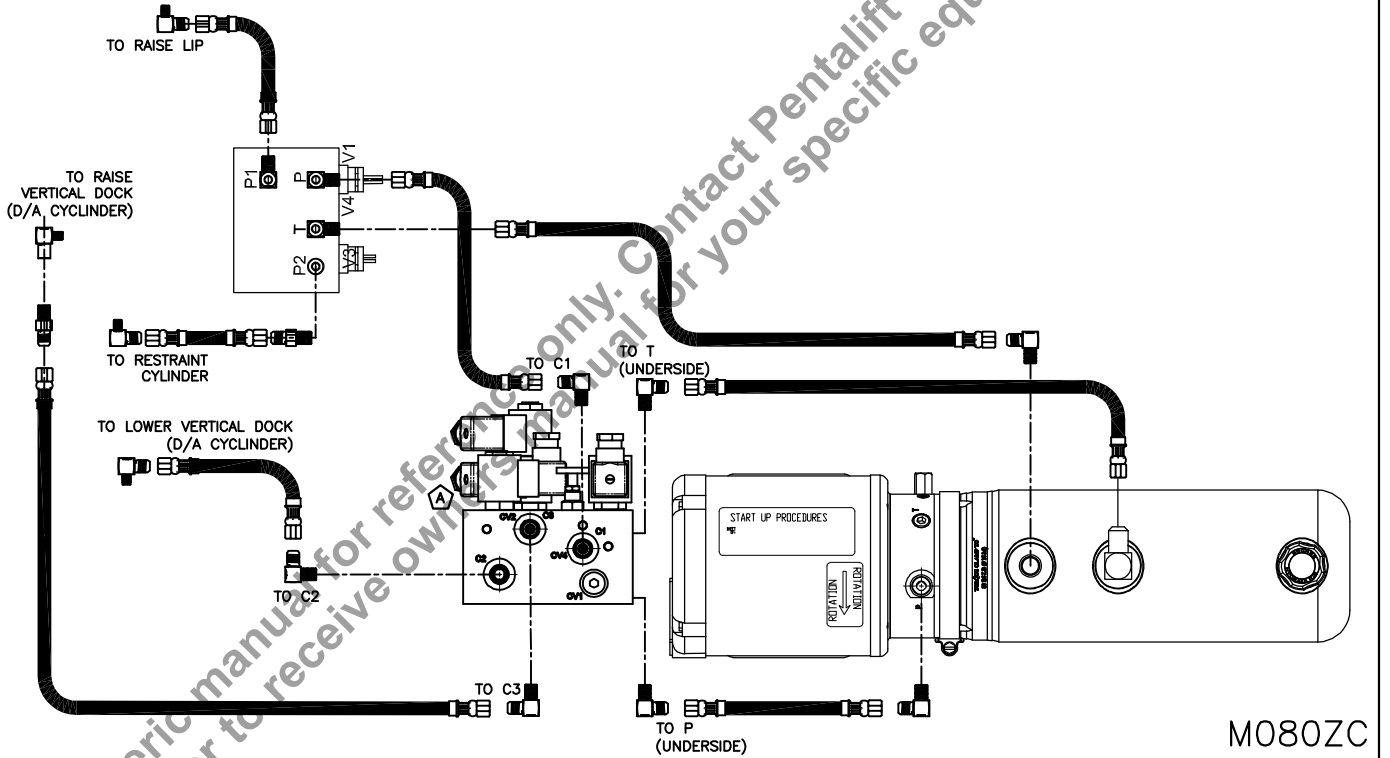

Figure 12: Stand Alone & Combination Hydraulic Valve Blocks
COMBINATION DOCK LEVELER & VEHICLE RESTRAINT – Connect the Lower Hose of the Lift Cylinder to the **C2** port on the Power Unit, the Raised Hose of the Lift Cylinder to the **C3** port, the Hydraulic Hose from the Lip Cylinder to the **P1** port on the Power Unit, and the Hydraulic Hose of the Restraint Cylinder to the **P2** port on the Power Unit (See “Figure 12: Stand Alone & Combination Hydraulic Valve Blocks” on page 22).
4. ___ Stand Alone & Combination Hydraulic Valve Blocks (see “Figure 12: Stand Alone & Combination Hydraulic Valve Blocks” on page 22)